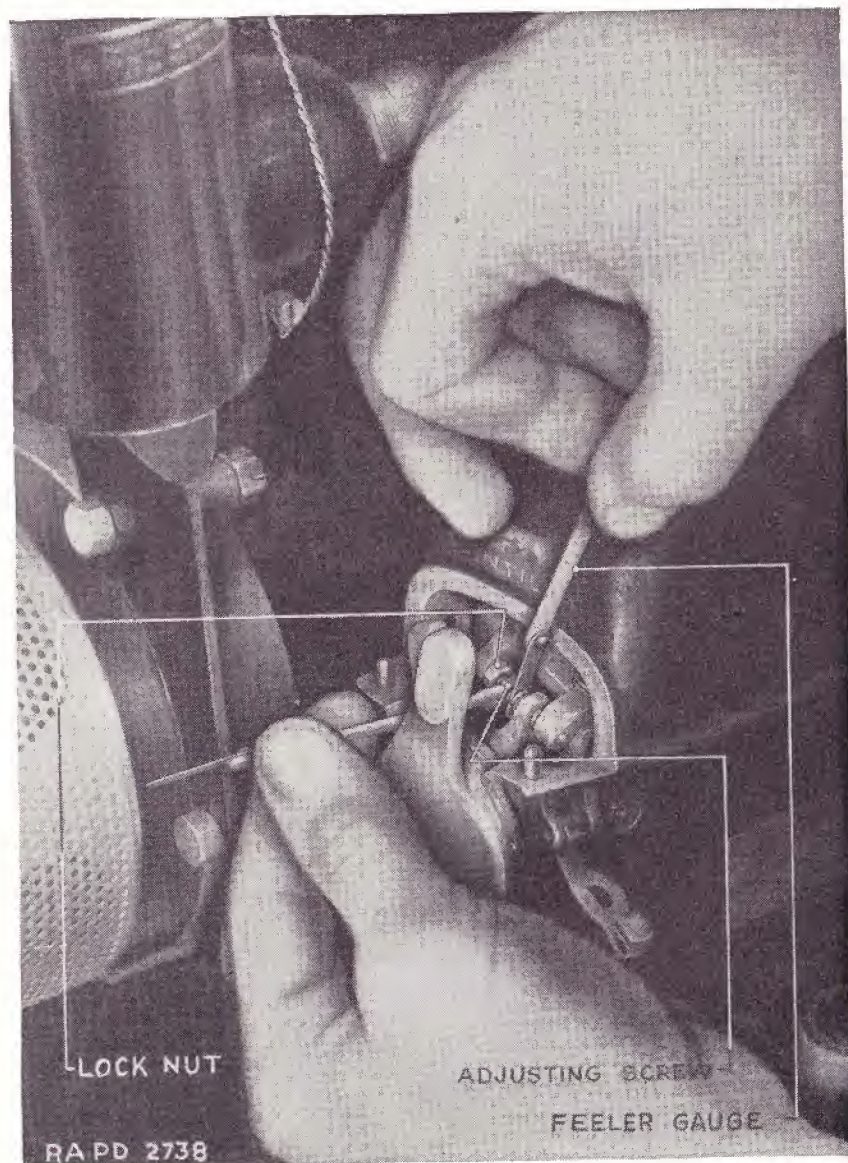

FIGURE 23.—Magneto point adjustment.
b. Adjustment (fig. 23).—Remove the breaker cover by releasing the safety ring on each side. Using a feeler gage, measure the clearance of the contacts when held wide open by the cam. This should be from 0.010 inch to 0.014 inch with 0.012 inch desired. To get the cam in a position to indicate the maximum gap, the engine will have to be turned over with the hand crank on the starter mechanism. To adjust the clearance between the contact points on the magneto, loosen the lock nut on the long contact screw, and turn the screw until there is 0.012-inch clearance between the contacts. Check clearance on all cam lobe positions.